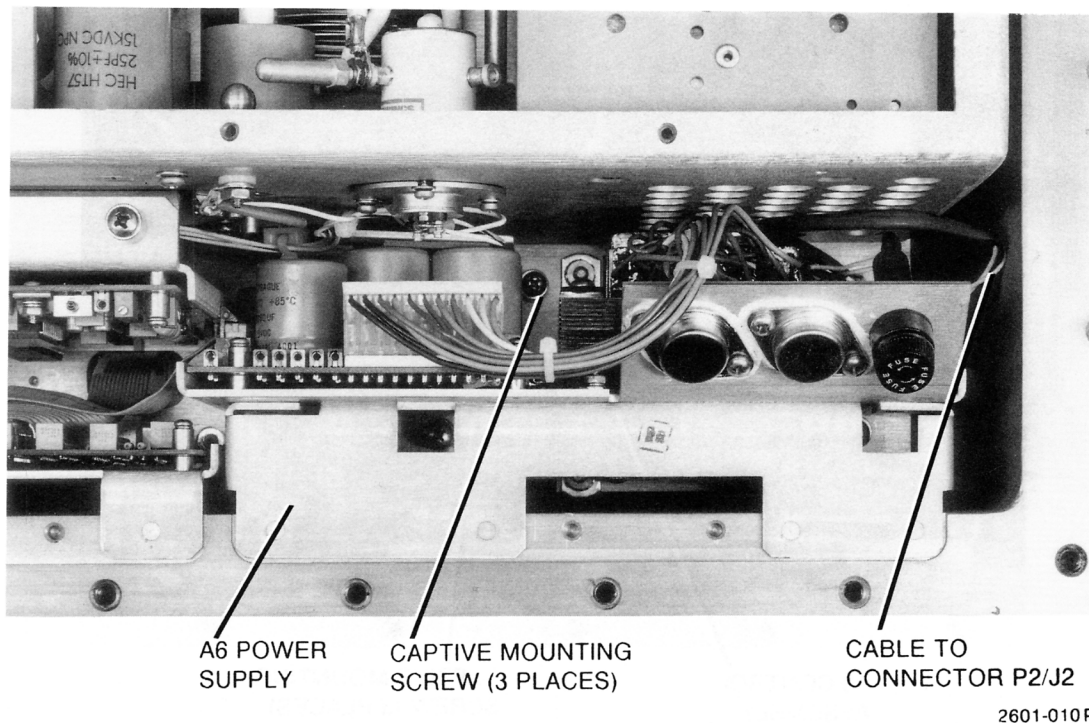

Figure 5-8. Power Supply A6 Removal
5.5.9 Power Supply A6 Removal (See figure 5-8)